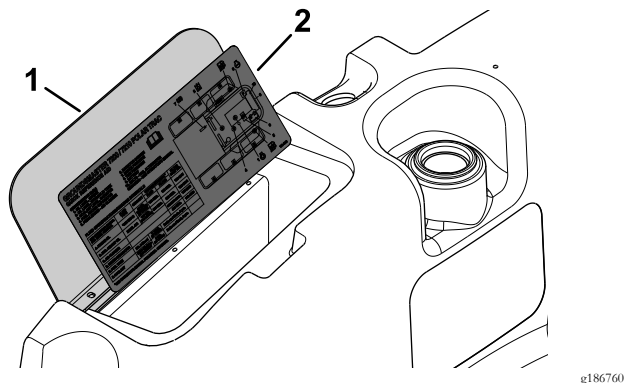

Figure 1
1. Clean the cover plate to ensure proper adhesion when you apply the decal (Figure 1).
2. Remove the backing and apply the decal to the cover plate (Figure 1).